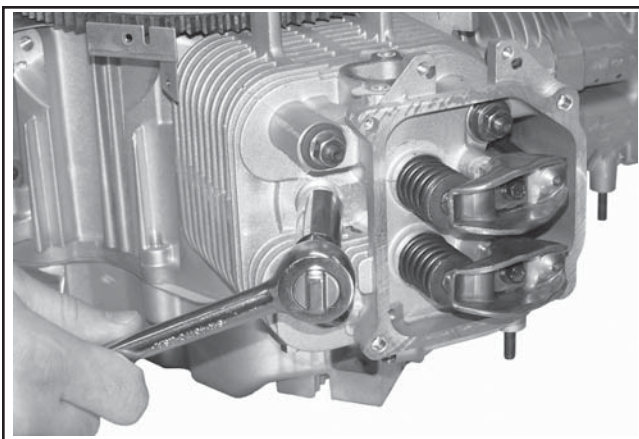

**Figure 8-48. Removing Intake Manifold.**
4. Remove the intake manifold and the intake manifold gaskets. See Figure 8-48.